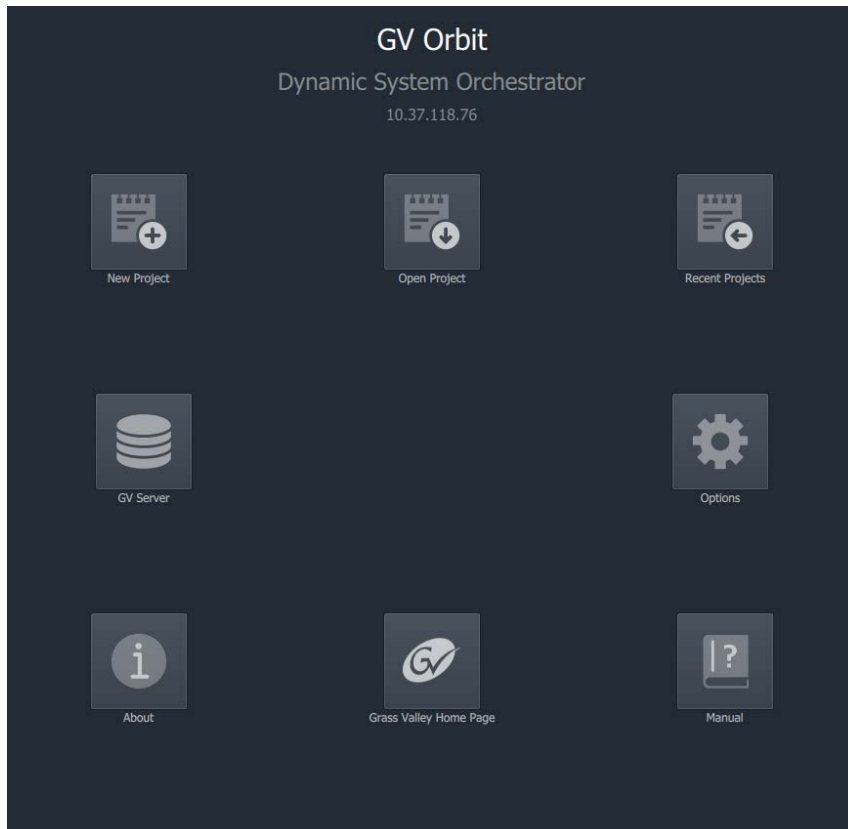

Fig. 2-6: GV Orbit Client Initial Screen
- Click **Finish** and the GV Orbit Client application launches and shows its initial screen. See Figure 2-6.